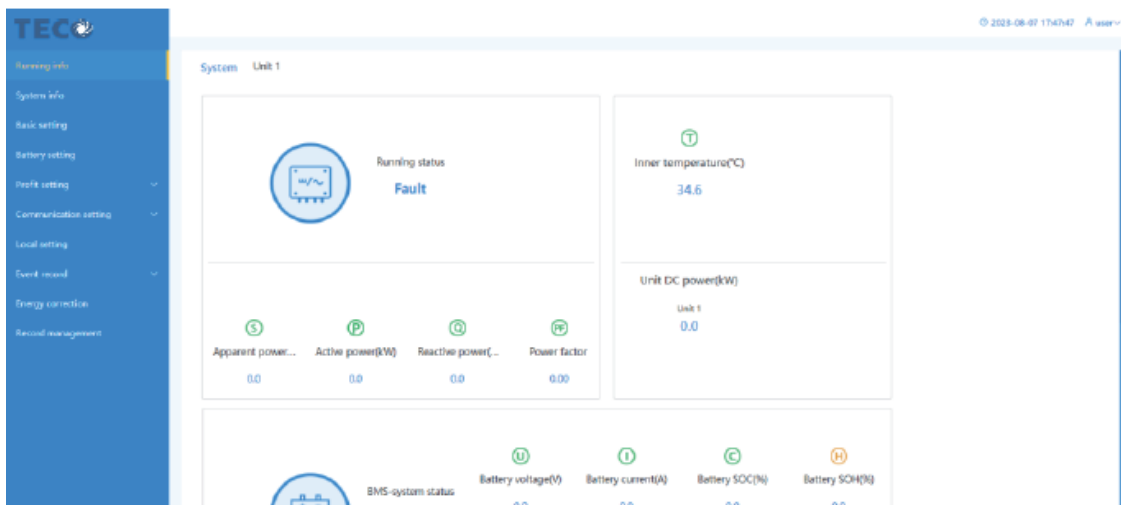

Figure 12 Running info page
7.3.2. Enter user name and password, and then click Login button, the page will enter the system info page of running info, as shown in Figure 12.